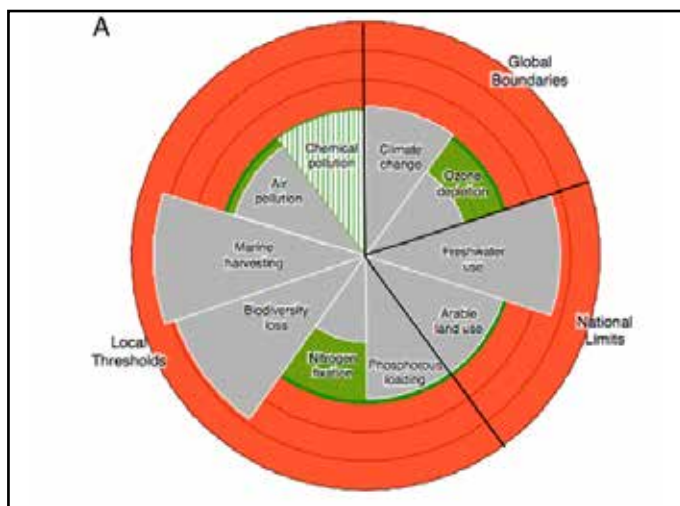

Figure 1. South African ecological deficits as determined by Cole et al.
It is common cause that humanity is using more than what the earth can provide. According to the United Nations (UN), we are using 25% more resources than what our planet can sustain. Humanity exceeds planetary limits and ecological assets are becoming more critical. When ecological footprints are bigger than the biological capacity, ecological deficits are created. In a study conducted on the ecological deficits in South Africa, Cole *et al* (2014) used the Stockholm Research Centre's "safe operating space for humanity" concept to establish and illustrate possible ecological deficits in South Africa. As shown in Figure 1, South Africa has already exceeded the safe operating space for humanity in climate change by 2%; freshwater use by 34%; marine harvesting by 45% and biodiversity loss by 37%. Arable land use, phosphorous loading and air pollution are within 10% of reaching and exceeding their boundaries.